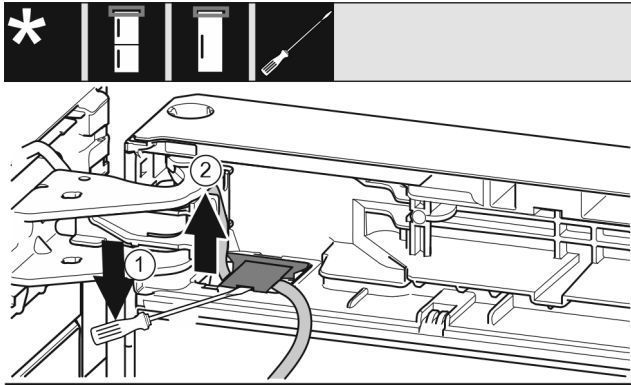

Fig. 21
- Lift up the cover with a screwdriver and pull it out. Fig. 21 (1)
- Pull out the cable. Fig. 21 (2)